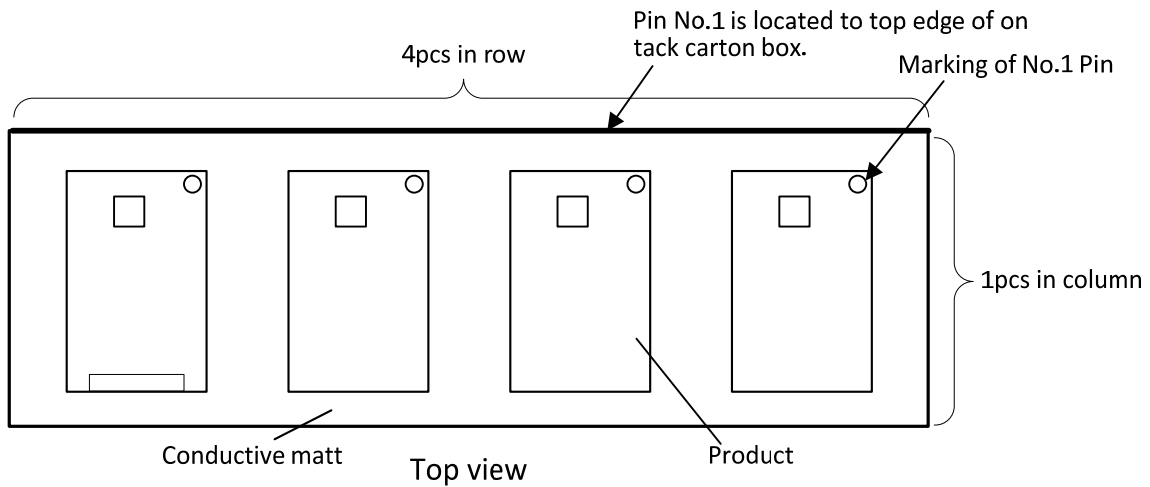

Fig.1
- ① Like the below figure, put the products on a conductive mat. (1row×8column) (See Fig.1)